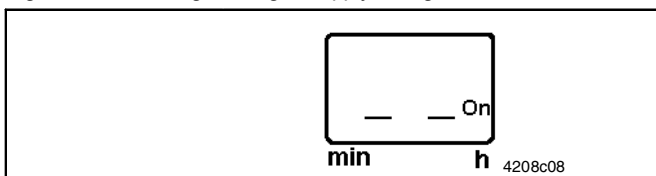

Fig. 19 Green segment left,
- As soon as contact 15¹⁾ (e. g. ignition in vehicles, or machine contact) is connected, the left-hand segment in the display window lights up (fig. 19). The pause time lapses.